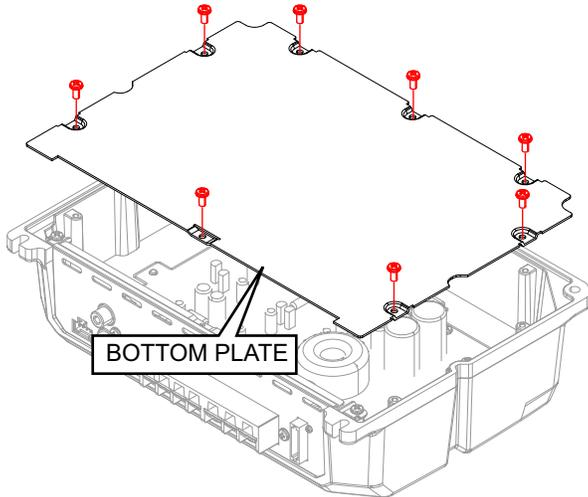

Fig.1
3.1 Removing the DIGITAL AMP PWB (See Fig.1 and 2)
(See Fig.1)